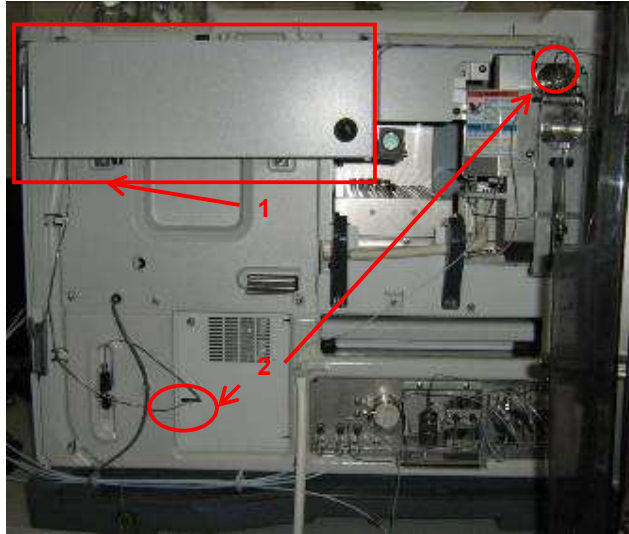

Figure 3: Disconnecting the required plumbing
3. Once the door has been removed, remove the cover of the column oven (1) by releasing the thumb screw on the top of the column oven. You will now need to disconnect the plumbing line from the autosampler to the column oven and from the column oven to the detector (2) (Figure 3).